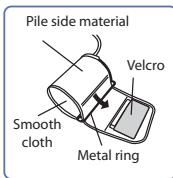

Fig. 2
- The cuff is located correctly when the velcro is on the outside of the cuff and the metal ring does not touch the skin (Fig. 2).